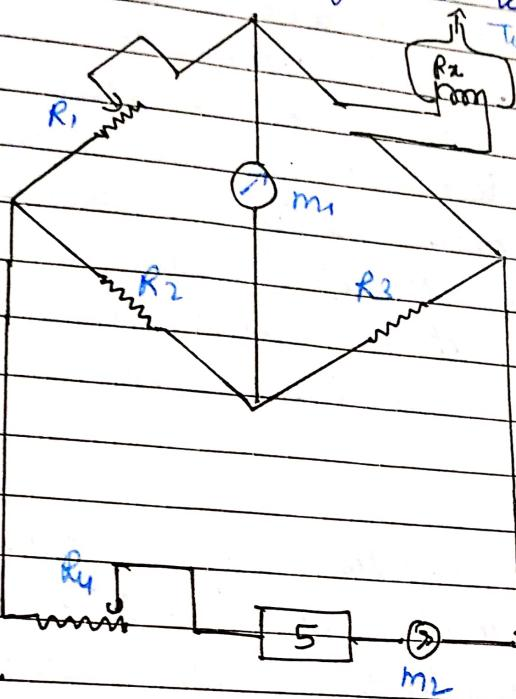

Fig 1:- Pirani Gauge.
A change in the pressure is inferred either from change in the filament current with T and T_0 held constant or from the changes in the filament temperature with the filament current held constant. The working of a Pirani Gauge is demonstrated in figure 1.
4. Penning Gauge :- The basic geometry of the Penning gauge with a tabular anode has been widely applied to the design of VHE pressure measurements. The manner in which the gauge operates can be seen from fig 1.